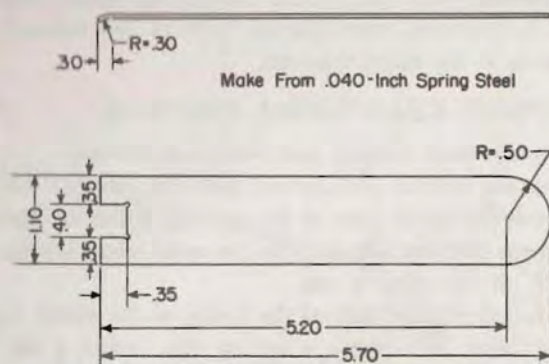

Figure 34—Tool for Removing Disc Spring Clips
20. The removal of the brake disc spring clips, as described in paragraph 19d, will be facilitated if a tool similar to that illustrated in figure 34 is available. This tool can be made from .040-inch spring steel.